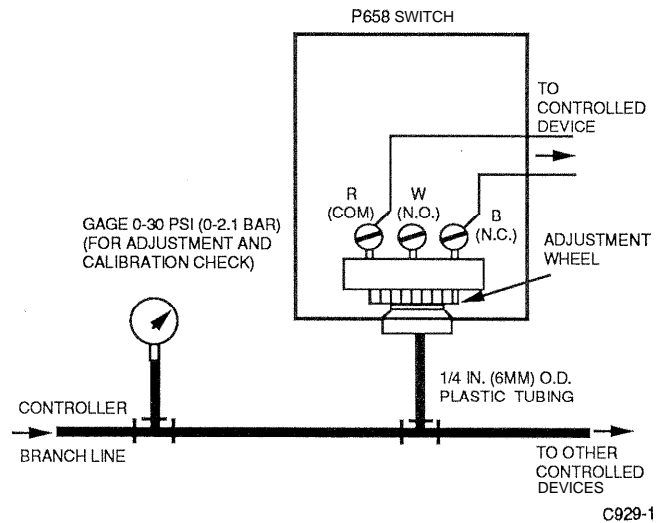

Fig. 6. P658 Piping.
1. Use 1/4-in. (6-mm) O.D. plastic tubing to connect Switch to the branchline air from controller (Fig.6).
1. Refer to description of factory settings in BEFORE INSTALLATION. To increase setpoint, turn adjustment wheel (Fig. 6) clockwise as viewed from top looking down. To decrease setpoint, turn adjustment wheel counterclockwise.